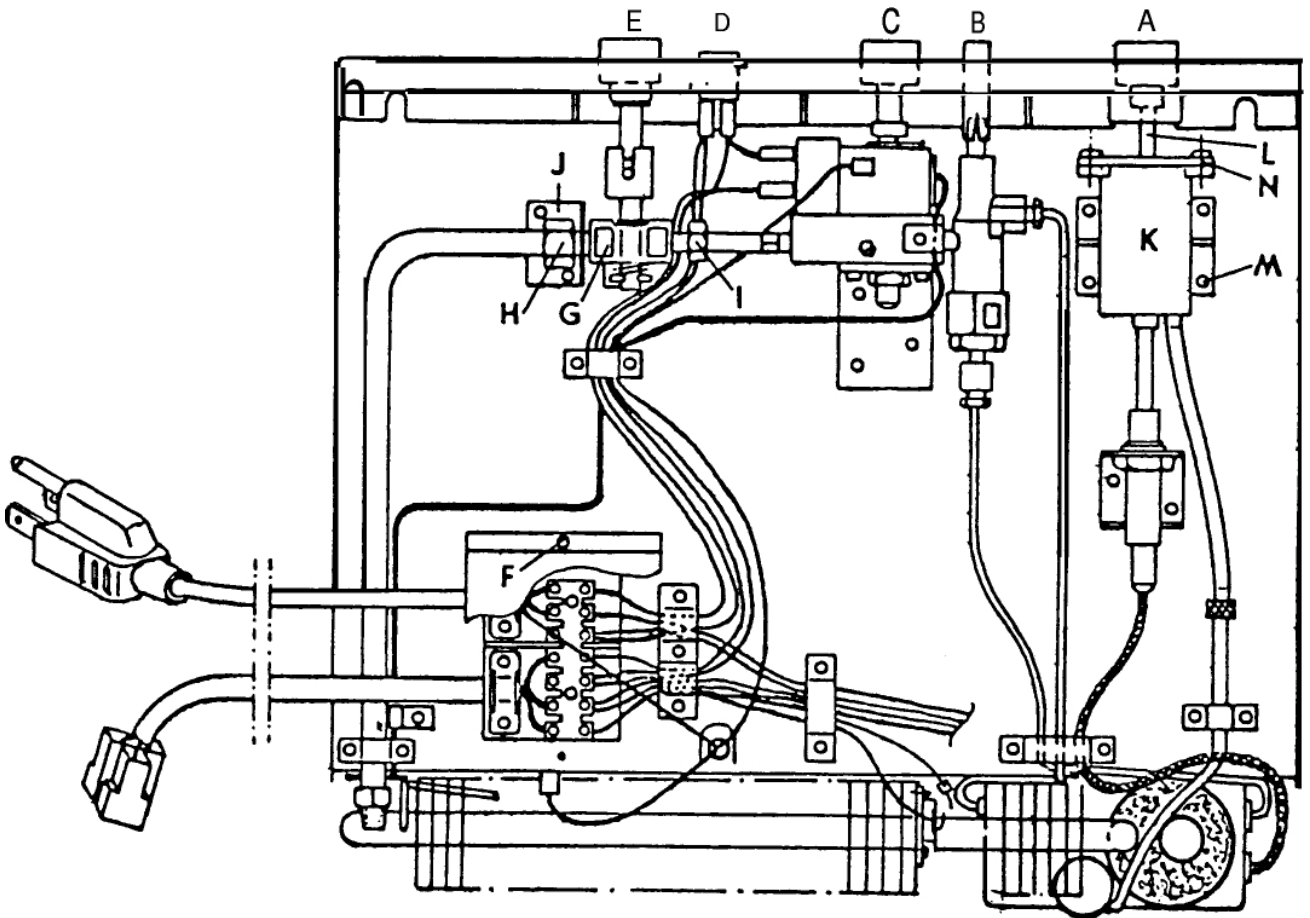

Fig.9
2. Unscrew support bracket (J, Fig 9) for gas-cock (2 screws) . 3. To replace gas-cock, reverse the procedure.
1. Unscrew knob (A, Fig.9) of air pump (K, Fig.9) from the shaft (L, Fig.9).
2. Unscrew air pump (4 screws / M, Fig. 9).
3. Unscrew cover of air-pump (2 screws / N, Fig. 9).